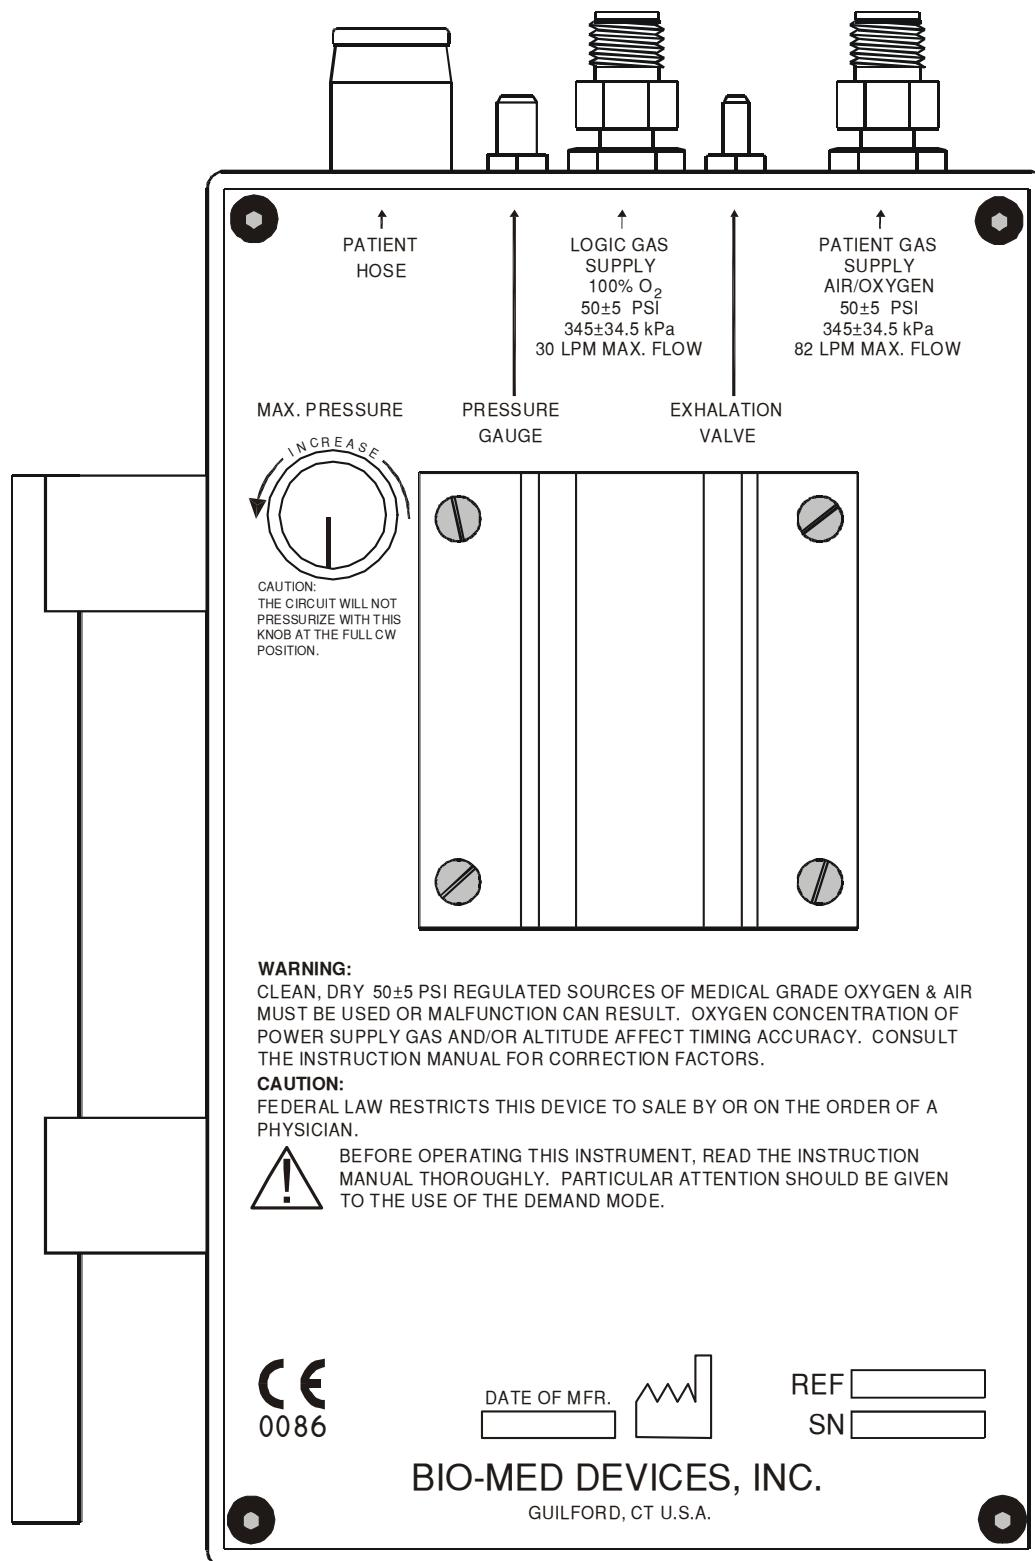

FIG. 1-2 IC-2A Ventilator (Rear View)
- b. Top and Back Panel Controls and Connectors – Table 1-2 lists the IC-2A Ventilator top and back panel controls and connectors and their functions. Refer to Figure 1-2.